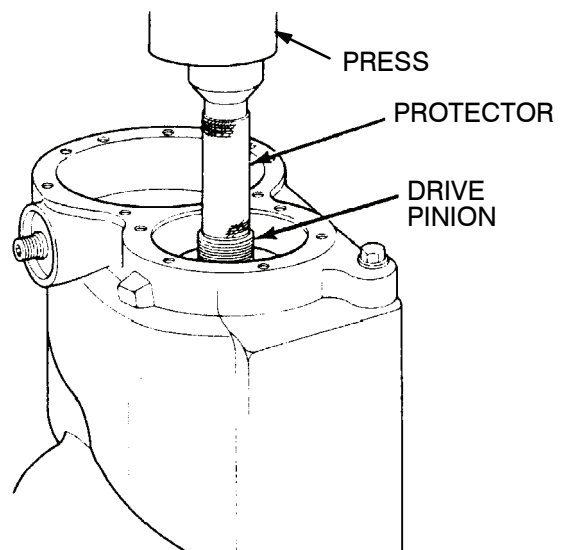

Figure 39. Drive Pinion Removal.
- (1) Remove the nut and washer from the drive pinion.
- (2) Remove the drive pinion from the carrier according to the following procedure. Figure 39.